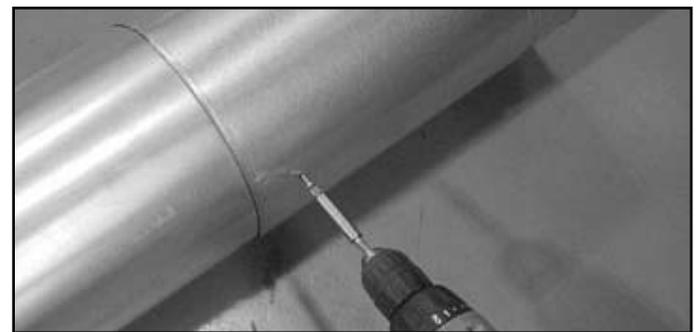

Figure 10.3 Screws into Slip Section
- Secure the pipe and slip section with two screws no longer than 1/2 in. (13 mm), using the pilot holes in the slip section. See Figure 10.3.